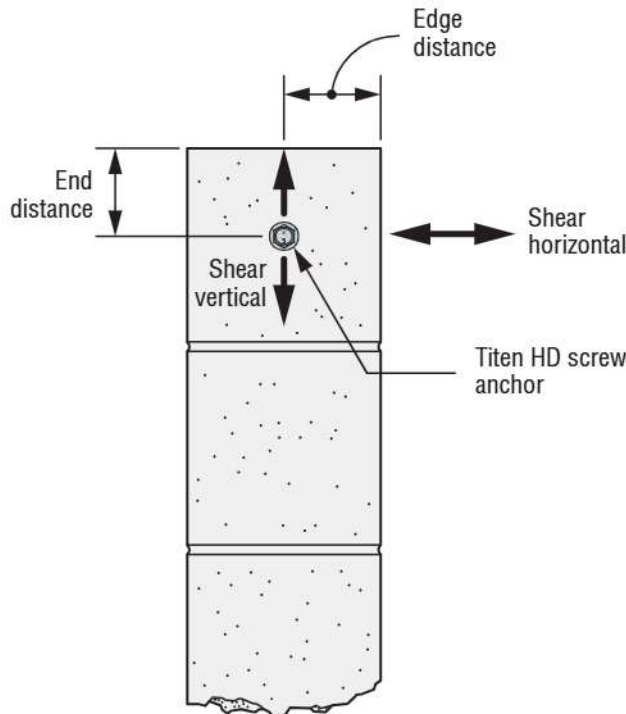

Figure 8.
6. Minimum edge and end distances are measured from anchor centerline to the edge and end of the CMU masonry wall, respectively. Refer to Figure 8 below.